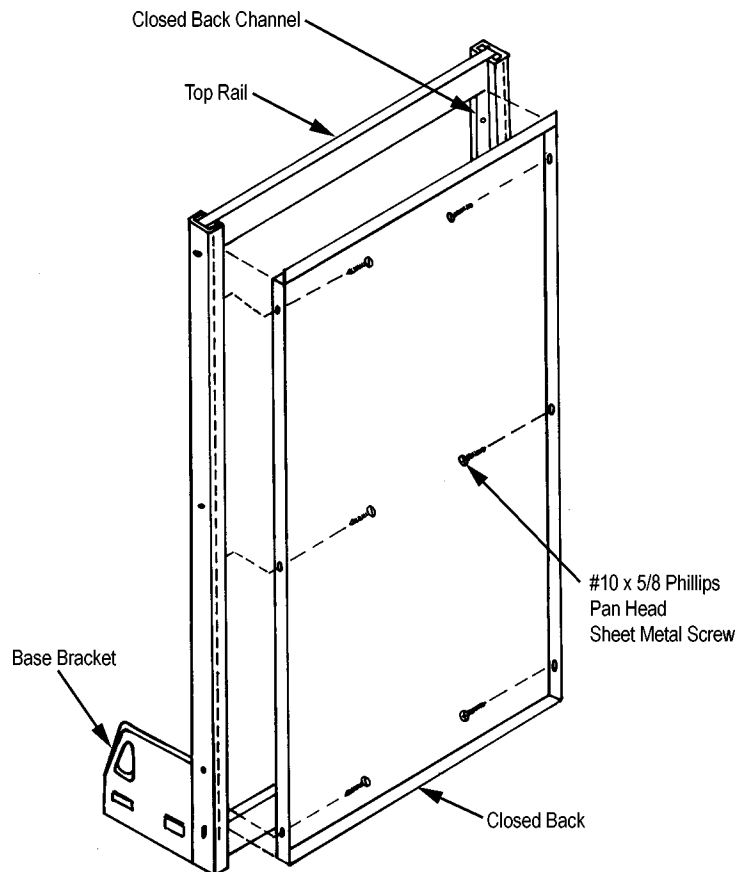

FIGURE 20B
5. Step units away from wall and install backs. Backs are to be placed with the flush side facing toward the base brackets. See Figure 20B on page 8 of this instruction manual.
2. The closed back will fit between the uprights, top rail and base shelf from the back side of the unit. Align holes in closed back with those in closed back channel and fasten with #10 x 5/8 Phillips pan head sheet metal screws. See Figure 20B.